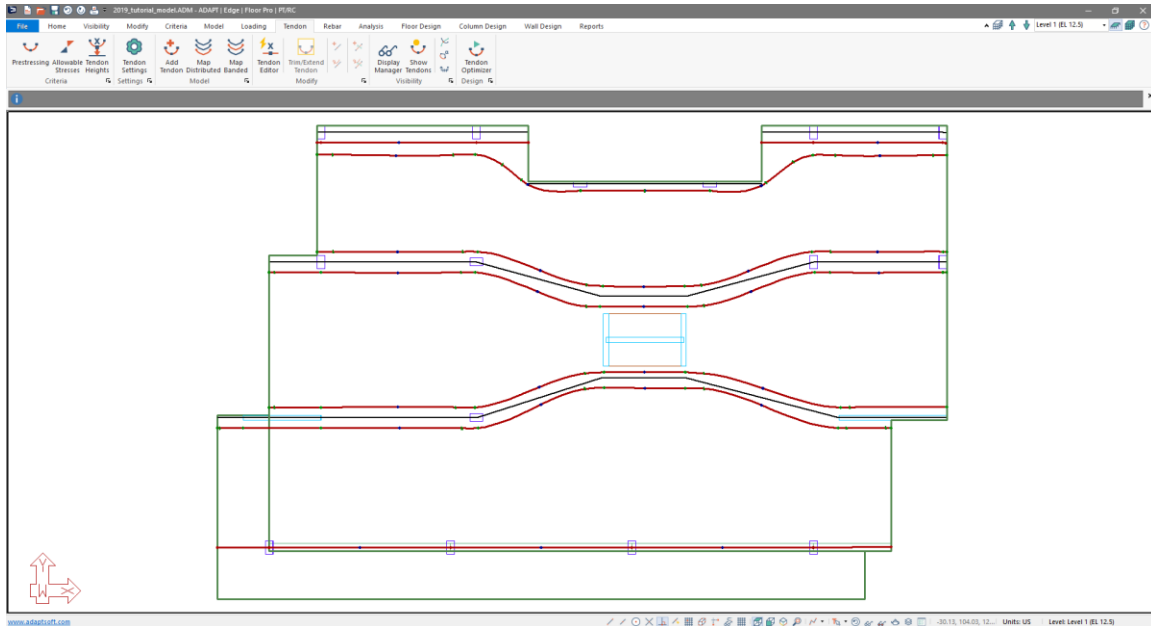

Figure 9-52
- Adjust the location of the swerve points to give the tendon a smoother curvature and make sure the tendon does not fall outside of the slab region. When done, the user's screen should look similar to **FIGURE 9-52**.